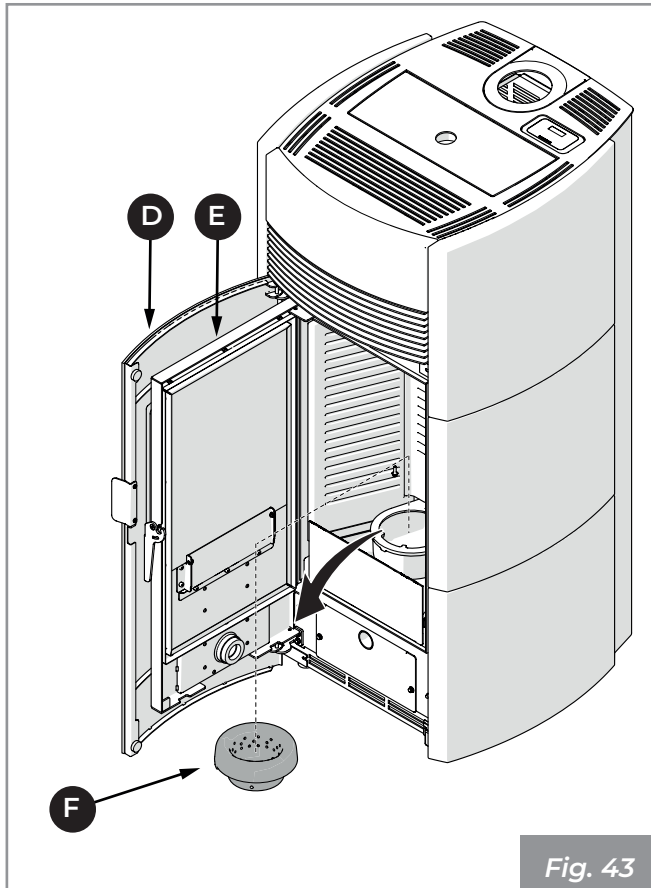

Fig. 43
- Open the door (D), the door to the combustion chamber (E) and remove the burn pot (F) (Fig. 43).